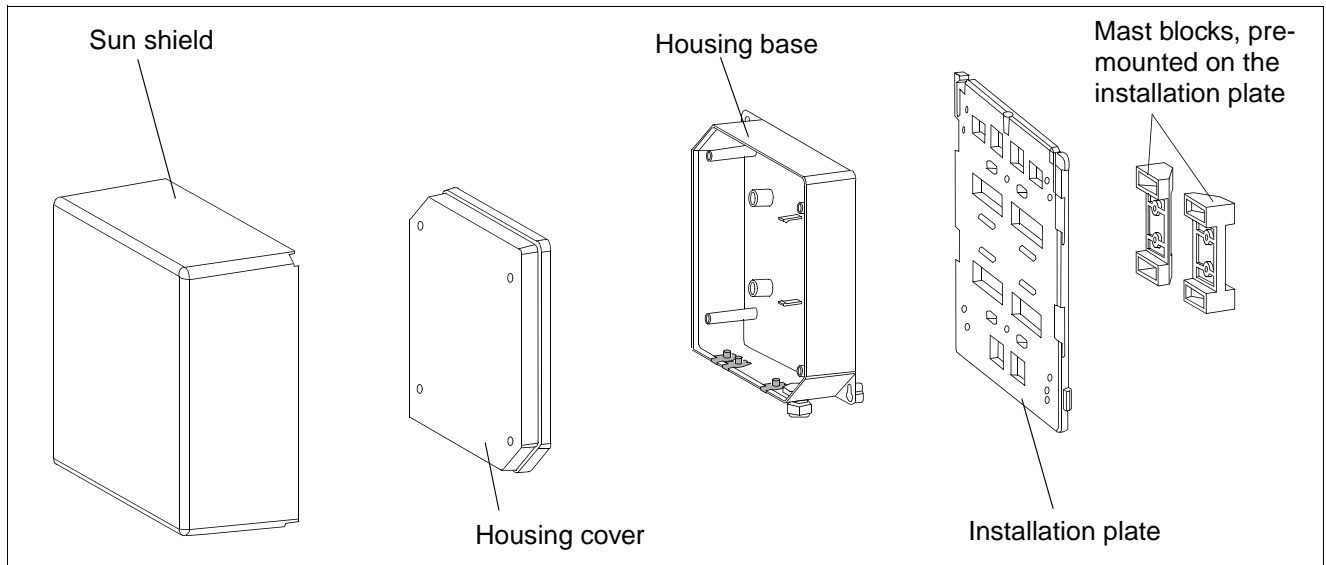

Figure 14 Components for outdoor installation
- Figure 14 shows the components of the outdoor housing.